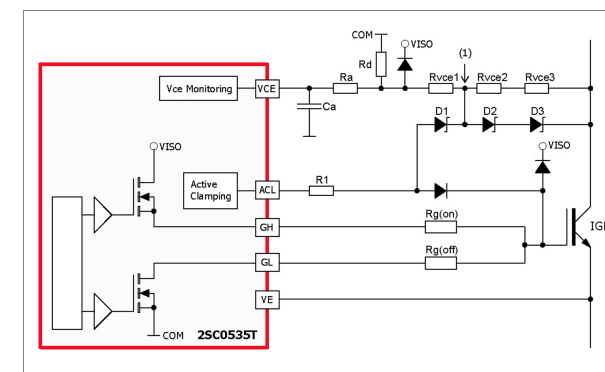
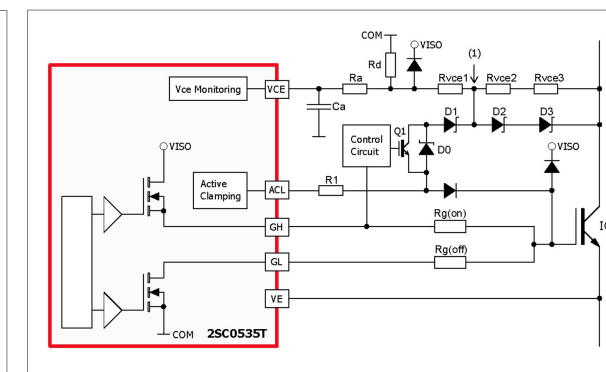
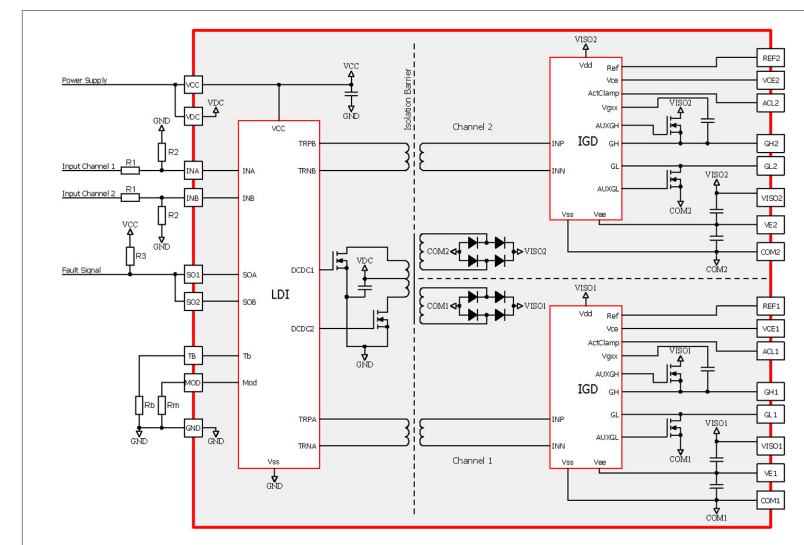

Figure 2: External circuit for Advanced Active Clamping (AAC) using 2SC0535T (only one channel is represented)
Figure 3: External circuit for Dynamic Advanced Active Clamping (DA2C) using 2SC0535T (only one channel is represented)
Figure 4: Block diagram of 2SC0535T with application circuitry of primary side
network with resistors as shown in Figs. 2 and 3 allows a robust design of the short-circuit protection function of the IGBT modules with short-circuit durations in the range of 5-10  $\mu$ s. The IGBT modules can be used with the maximum DC link voltage at double the nominal current without risking any false tripping of the desaturation protection function. If required, the threshold limit for desaturation protection can easily be increased by a simple resistive voltage divider ( $R_d$  in Figs. 2 and 3). Furthermore, the use of high-voltage diodes is completely avoided.
The patent pending circuits proposed in Figs. 2 and 3 also offer an important advantage. The transient voltage suppressor (TVS) chain is connected to the resistor network at node (1). This allows a high-ohmic resistor network  $R_{vc1}...R_{vc3}$  to be used while keeping a constant voltage at (1) in the IGBT short-circuit condition over a wide range of the DC-link voltage, typically of 50% to 100% of its maximum value. The voltage at (1) is then basically determined by the clamping voltage of the
In the failure condition (undervoltage monitoring or IGBT short-circuit), the corresponding driver channel is turned off and a fault feedback is transmitted immediately to the corresponding status output. The driver is then kept in the off-state during the blocking time, which is programmed with a resistor  $R_b$  at pin TB (see Figure 4) in a range between 10 $\mu$ s and 130ms. The status signals SO1 and SO2 allow simple monitoring of the driver channels.
Basic active clamping topologies implement a single feedback path from the IGBT's collector through TVS to the IGBT gate. The 2SC535T supports SCALE-2 Advanced Active Clamping (AAC), where the feedback is also provided to the driver's secondary side at pin ACL (see Figure 2): as soon as the voltage on the right side of the resistor R1 increases due to the active clamping activity, the turn-off MOSFET of the driver connected to GL is progressively switched off in order to improve the effectiveness of the active clamping and to reduce the losses in the TVS.
as well as in the off-state condition when using AAC to avoid thermal overload or even static conduction of the TVS. The circuit of AAC in Figure 2 can be extended with a switch (e.g. IGBT or MOSFET) and one or more paralleled TVS as well as a small control circuit as shown in Figure 3 to address this drawback.
allow the unrestricted use of an input signal logic level of between 3.3V and 15V. A simple resistive voltage divider can be used to increase the threshold levels and therefore the signal-to-noise ratio at the input if required (R1 and R2 in Figure 4).
The driving mode is selected with a resistor Rm at the MOD pin. In direct mode, both driver channels work fully independently. In half-bridge mode, only one driver channel is in the on-state while the other is in the off-state. At commutation, a programmable half-bridge dead time of 0.6µs to 4.1µs is programmable with the resistor Rm shown in Figure 4. The DC/DC converter generates an unregulated isolated 25V supply voltage from the primary 15V supply voltage for each driver channel that can vary slightly depending on the driver load and temperature. The secondary voltage is divided into a regulated and stable +15V for the on-state gate-emitter voltage of the IGBT and an unregulated -10V for the off-state gate-emitter voltage. Thanks to the regulated +15V in the on-state, the gate-emitter voltage can be efficiently clamped with a Schottky diode to the +15V as shown in Figs. 2 and 3. This gate-emitter clamping method is considerably more effective than using transient voltage suppressors between the gate and emitter. The latter does not allow the gate-emitter voltage to be limited to 15V in the short-circuit condition, as some